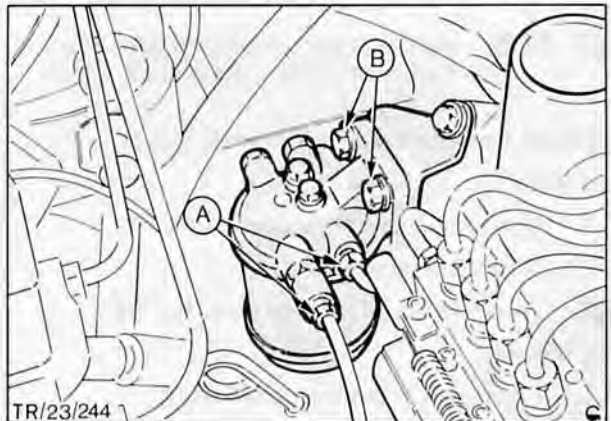

Fig. 71. Fuel filter assembly
4. Remove 2 bolts and detach filter assembly, Fig. 71.